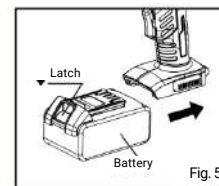

Fig. 5
- Remove the battery from the charger, and then attach it to the main unit. (Fig. 5)